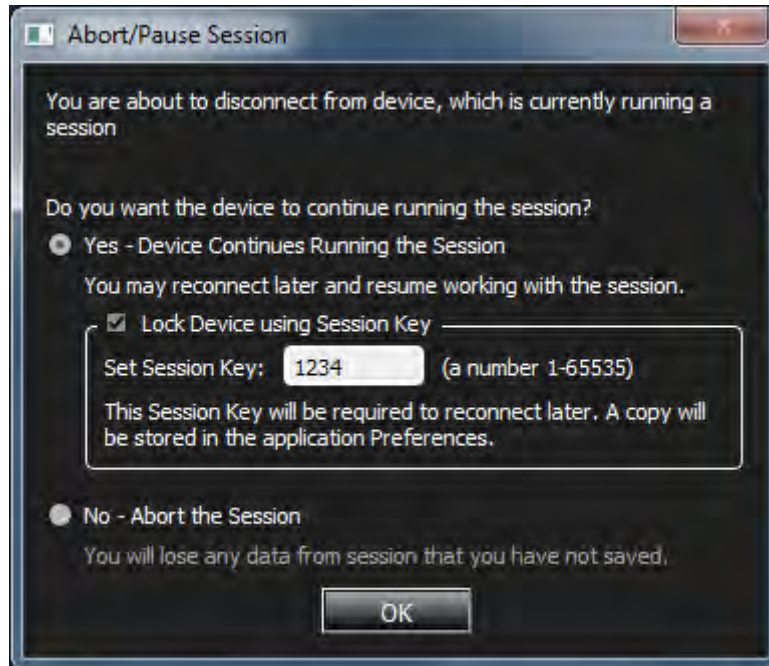

Figure 3.44: Continue the Recording Session
- Exit the Application, continue Recording Data Traffic, and return to the Session in the future (Figure 3.44).